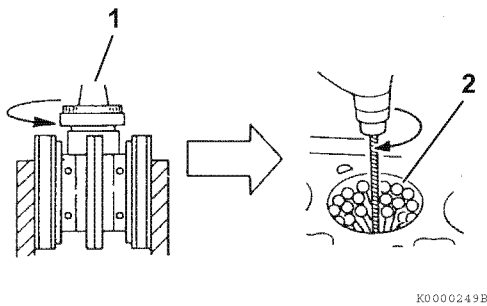

Figure 6-69
2. **Honing** - Minor cylinder imperfections may be corrected by using a rigid cylinder hone (1, **Figure 6-69**). Be sure not to exceed the maximum cylinder bore specification.
Deglazing - A used cylinder that did not require boring or honing, should always be deglazed with a ball hone (2, **Figure 6-69**) before installing new piston rings. This will properly prepare the cylinder surface to allow new piston rings to seat properly.
- Use a 300-grit hone at 300 - 1200 min⁻¹ (rpm) (Figure 6-69).